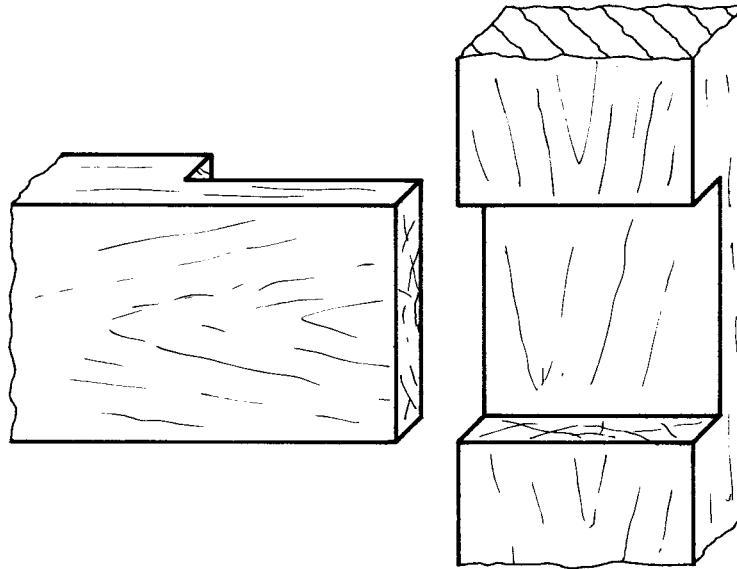

FIG. 3
- (a) A tee-halving joint, as used in the barbecue trolley, is shown in Figure 3 below.